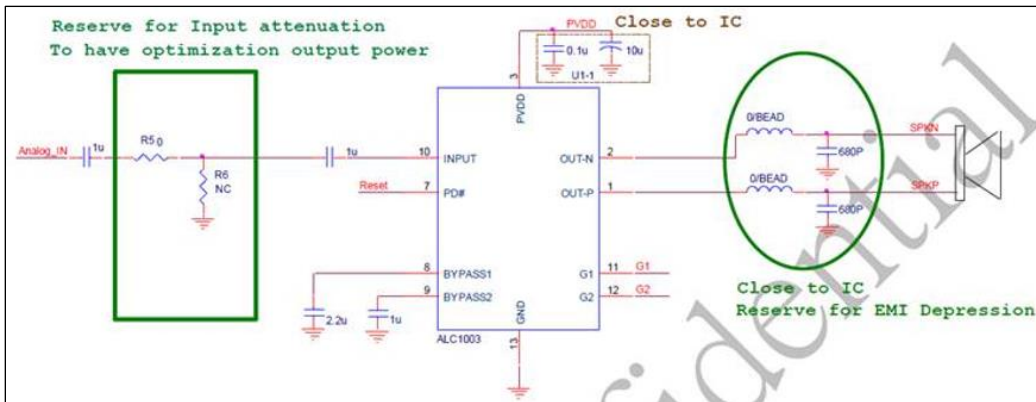

Fig 24-17 Reference design of using D type power amplifier
- If the power amplifier is a D type amplifier, refer to the design shown in Fig 24-17 (power amplifier is ALC1003).